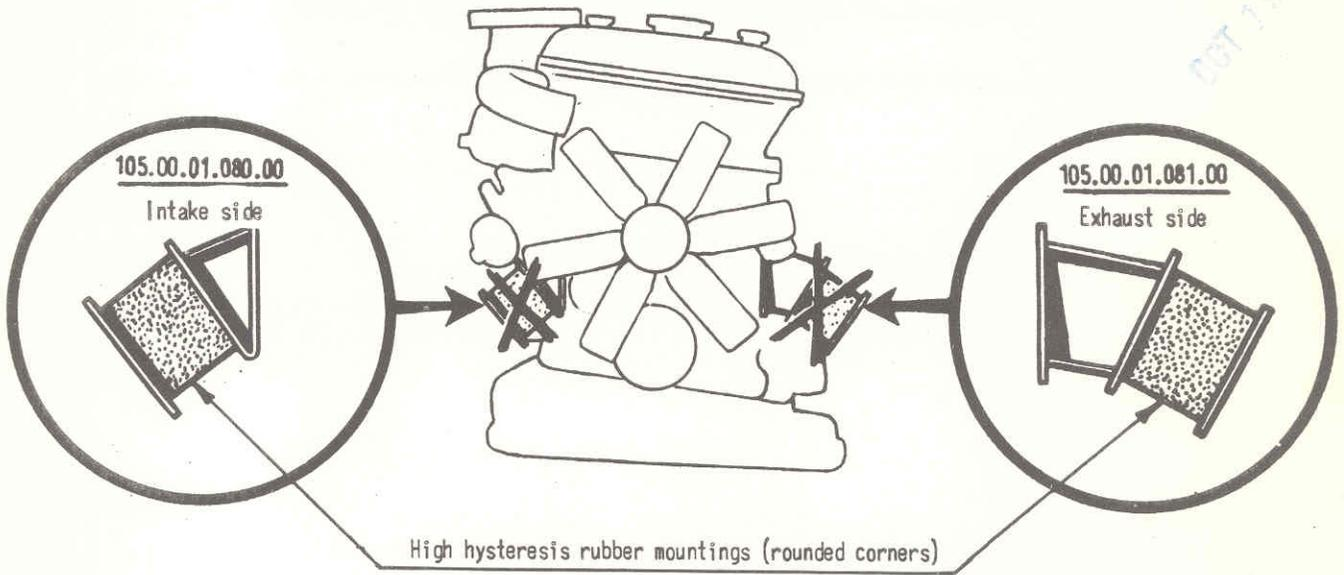

Fig. 1
- replacement of high hysteresis rubber mounts for the old ones; the former are identified by rounded corners (See fig. 1).